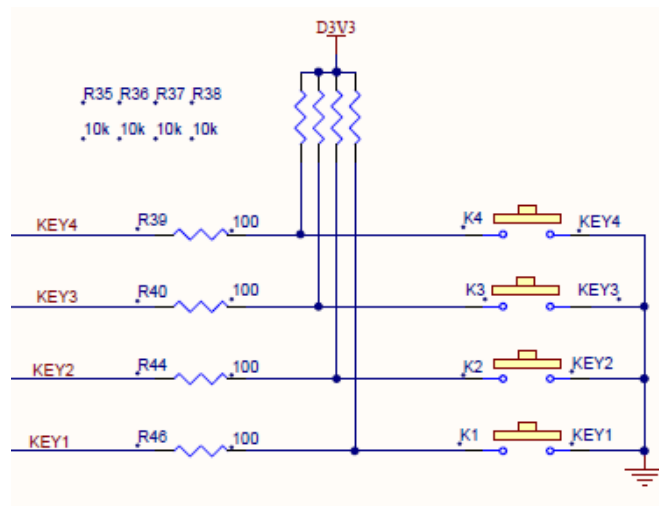

Figure 13.1? 4 user keys schematics?
**Keys are active low** , Four user keys schematic diagram shown in Figure 13.1?